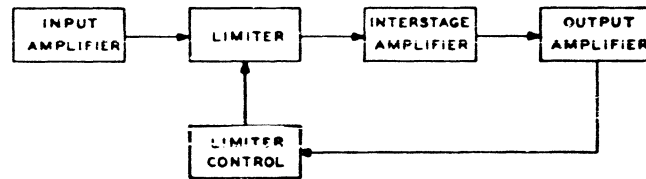

Figure 2-1. Functional Block Diagram
a. GENERAL. - The signal channel of the 26W is composed of an input voltage amplifier, a limiter circuit, an interstage voltage amplifier and a push-pull Class A output amplifier stage. Refer to Figure 2-1.